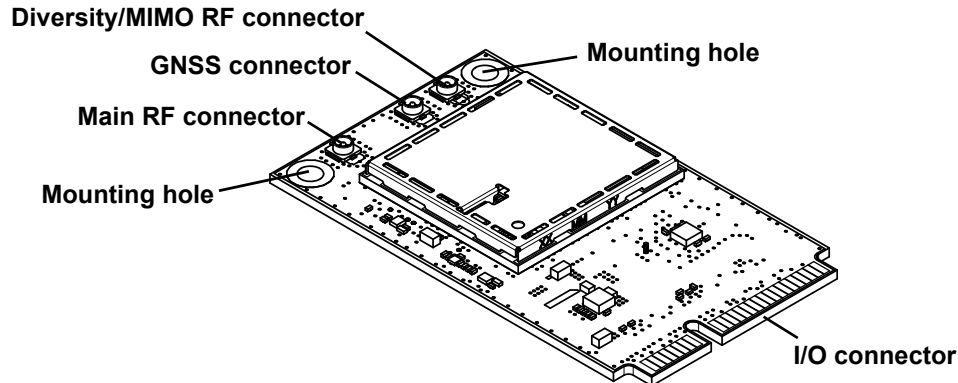

Figure 2-2: Module Connectors
- Connect to system ground using the two mounting holes at the top of the module (shown in Figure 2-2 on page 18).